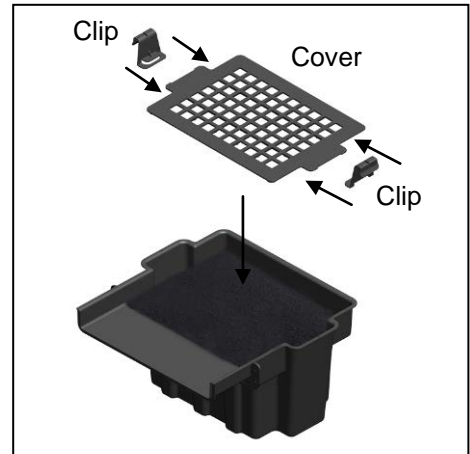

Fig. 13
13. Slide 2 clips to cover, then snap them to tank. Fig. 13